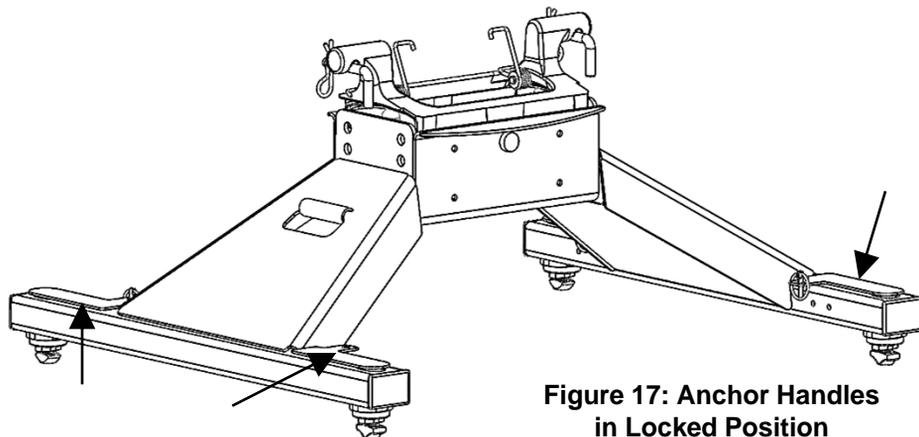

Figure 17: Anchor Handles in Locked Position
3. Rotate (4) handles into locked position (with locking holes through base arch shell) and overlapped on each side (Figure 17).
3. Remove lynch pin / lock from the overlapping handle holes on each side of the hitch base (Figure 17). Store lynch pins.